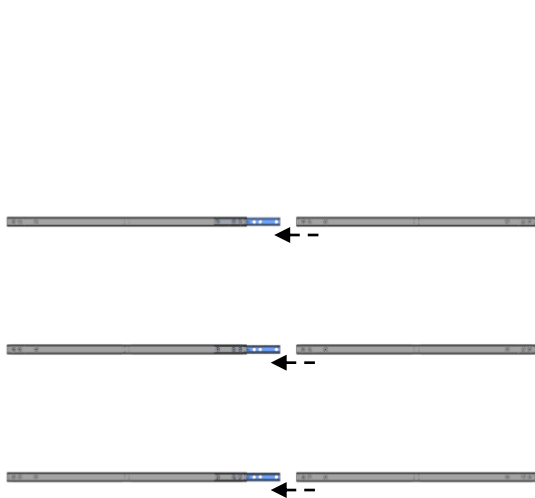

Fig.1 Insert Bracket H
- First insert Bracket H to assembled Joint H and Bracket H. (Fig.1)